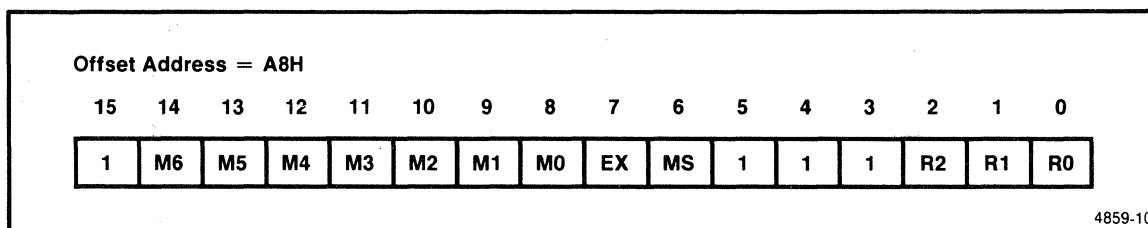

Figure 2-9. MPCS Register format.
The size of the mid-range memory block is determined by bits 14 through 8 in the MPCS Register. Table 2-7 shows the relationship between the total block size and bits 14 through 8 in the MPCS Register. Figure 2-9 shows the bit format for the MPCS Register.
The mode of operation of the peripheral chip-selects is defined by bit 6 (MS bit) and bit 7 (EX bit) of the MPCS register. Refer to Figure 2-9. This register also sets the size of the mid-range memory block. Bit 6 is used to select whether the peripheral chip-selects are mapped into memory or I/O space. Bit 7 is used to select the function of chip-select lines PCS5(L) and PCS6(L). Table 2-9 shows the programming of these bits.